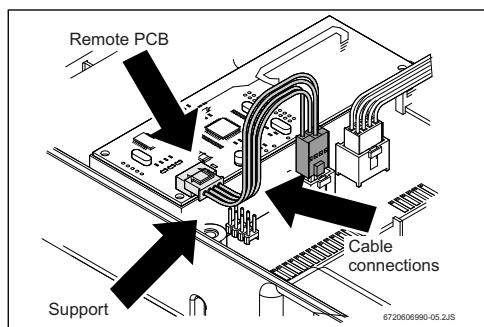

Fig. 6
- ▶ Remove the other protective paper and attach the remote control PCB as shown in Fig. 6.
- ▶ Use the supplied cable to connect between the main PCB and the remote control PCB as shown in Fig. 6.